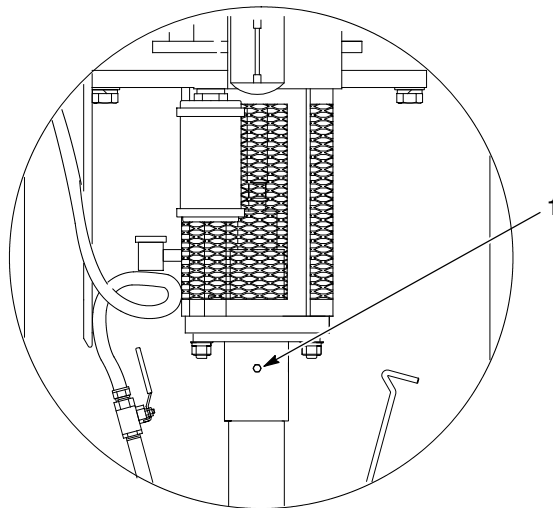

Figure 3 Bleed Valve Location
2. See Figure 3. Place a small waste container beneath the bleed valve (1). Make sure that the small bleed port is pointed down. Carefully loosen the bleed valve only two or three turns.